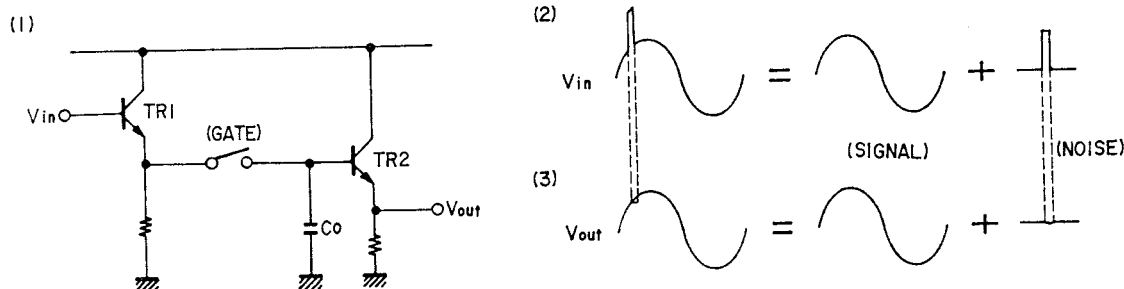

Fig. 19 Basic circuit for pulse noise suppression and wave forms
When the gate is closed as in Fig. 19(1), condenser  $C_0$  is driven by a low impedance (emitter follower TR1) and therefore the output signal is the same as the  $V_{in}$  input.
When pulse noise enters, the gate opens immediately, and condenser  $C_0$  maintains the signal level prior to noise input. When the noise stops, the gate closes and the wave form returns to normal. The output wave form  $V_{out}$  becomes similar to the wave form of Fig. 19(3). In terms of noise alone, it means that the noise (2) is suppressed as in (3).
When the aforementioned circuit is used on the stereo signals, the pilot signal is cut out while the gate is open and distorts the stereo composite signal to generate irritating noise. To prevent this distortion, during the time gate is open a 19 kHz sine wave of the same amplitude and phase as that of the pilot signal is generated from the pilot signal generating circuit (19 kHz sine wave generating circuit). This is added to the holding condenser Fig. 19(1) electric potential while the gate is open and compensates the pilot signal.